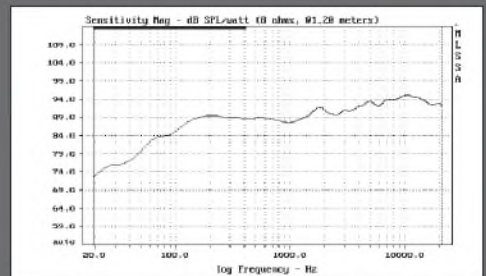
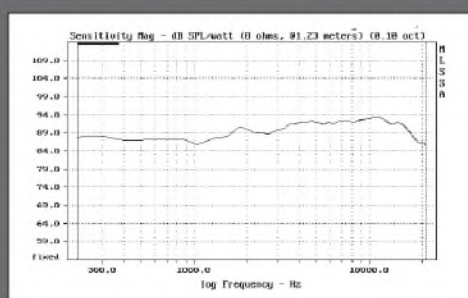

FIGURE 9: VR-920 in-room frequency response.
FIGURE 14: VR-920 average response over ±30°.
*Figure 9* shows the VR-920 frequency response obtained using MLSSA's adaptive window analysis. Best accuracy for this plot is above 200Hz. Response is relatively smooth between 200Hz and 1kHz. Sensitivity in this range is 89dB SPL / 2.83V/1m. Response then rises 5dB between 1 and 10kHz
Figure 14 is a plot of VR-920 horizontal response above 200Hz averaged over -30° to +30°. Compare this plot with the on-axis response shown in Fig. 9. The curves are